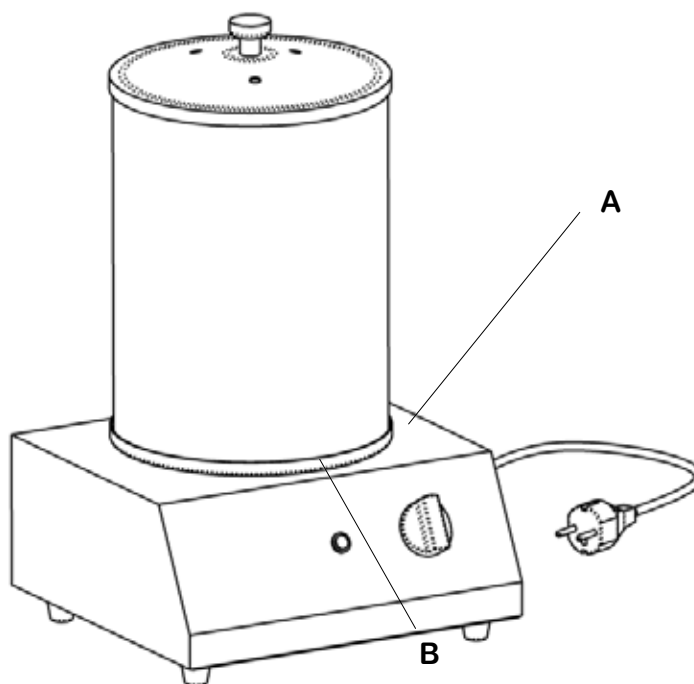

Fig.1
2. Turn the thermostat (A fig.1) until the temperature setting required is reached. The heating light (B fig.1) will come on and will go off when the set temperature is reached.